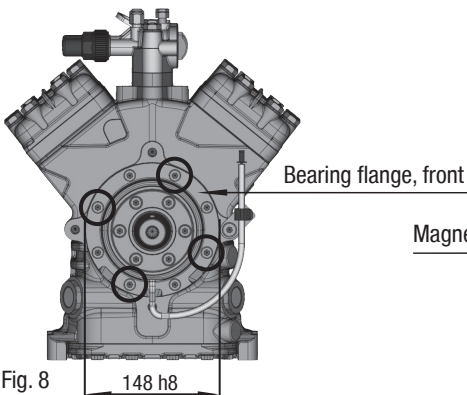

Fig. 8
- To absorb the magnetic field of the electromagnetic clutch, the front bearing flange has a snug fit $\varnothing 148$ h8 (see Fig. 8).
- To connect the magnetic field, loosen the 4 cheese head screws M8 on the bearing flange (see Fig. 8).